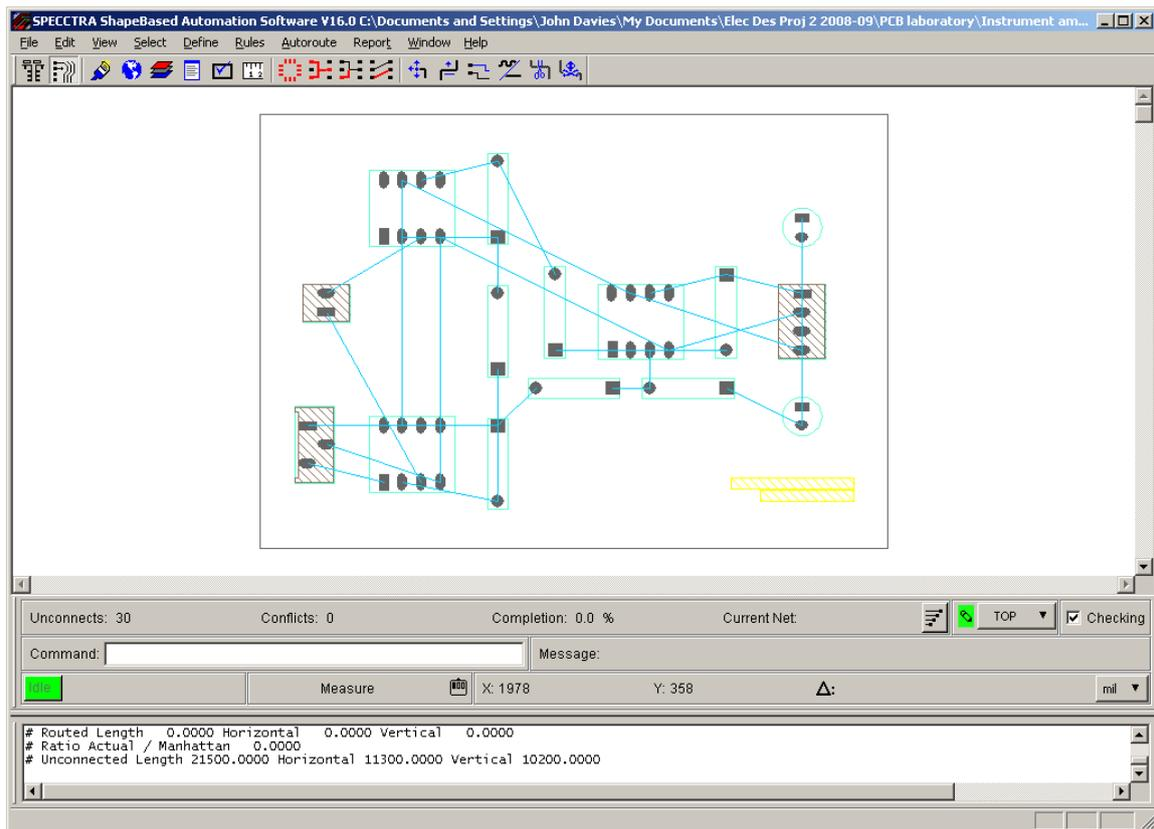

Figure 15. Screenshot of SPECCTRA, ready to route the instrumentation amplifier. I have changed the background of the windows to white for a clearer printout.
Click Start Allegro PCB Router to dismiss the box. SPECCTRA will now start and you should now see your components joined by the ratsnest within an outline (the route keepin) as in figure 15 on the following page. Some of the components have shaded footprints, which I'll explain later.
- The Molex connectors (J1 and J2) and the trimmer (R8) have tracks only to the bottom of their pins. This is why the via is needed near R8. There are no tracks to the top because the symbols for these components have *route keepouts* on the top, which forbid the router from running tracks there. The footprints have diagonal shading in SPECCTRA to show this (figure 15 on page 32).